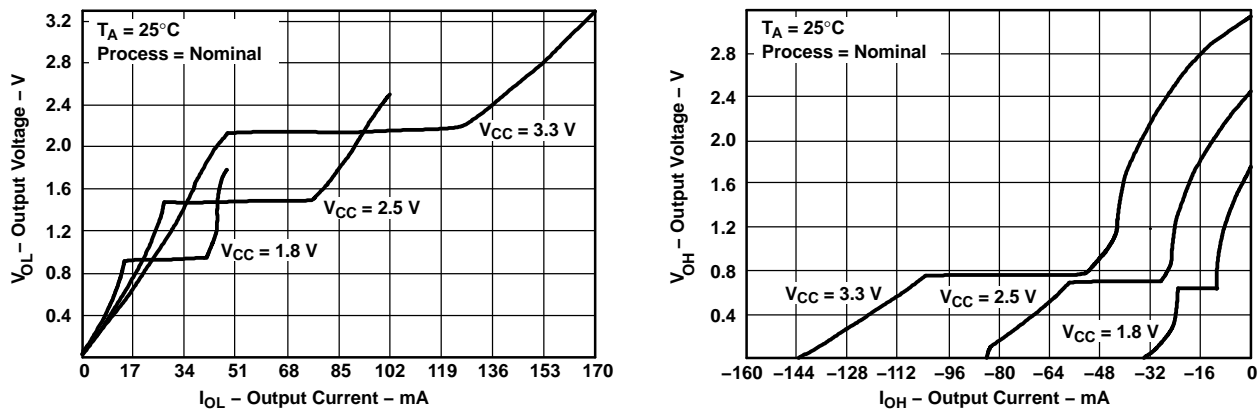

Figure 1. Output Voltage vs Output Current
A Dynamic Output Control (DOC) circuit is implemented, which, during the transition, initially lowers the output impedance to effectively drive the load and, subsequently, raises the impedance to reduce noise. Figure 1 shows typical V_{OL} vs I_{OL} and V_{OH} vs I_{OH} curves to illustrate the output impedance and drive capability of the circuit. At the beginning of the signal transition, the DOC circuit provides a maximum dynamic drive that is equivalent to a high-drive standard-output device. For more information, refer to the TI application reports, *AVC Logic Family Technology and Applications*, literature number SCEA006, and *Dynamic Output Control (DOC) Circuitry Technology and Applications*, literature number SCEA009.
- (1) All unused inputs of the device must be held at V_{CC} or GND to ensure proper device operation. Refer to the TI application report, *Implications of Slow or Floating CMOS Inputs*, literature number SCBA004.
- (2) Dynamic drive capability is equivalent to standard outputs with I_{OH} and I_{OL} of $\pm 24\text{ mA}$ at 2.5-V V_{CC} . See Figure 1 for V_{OL} vs I_{OL} and V_{OH} vs I_{OH} characteristics. Refer to the TI application reports, *AVC Logic Family Technology and Applications*, literature number SCEA006, and *Dynamic Output Control (DOC™) Circuitry Technology and Applications*, literature number SCEA009.